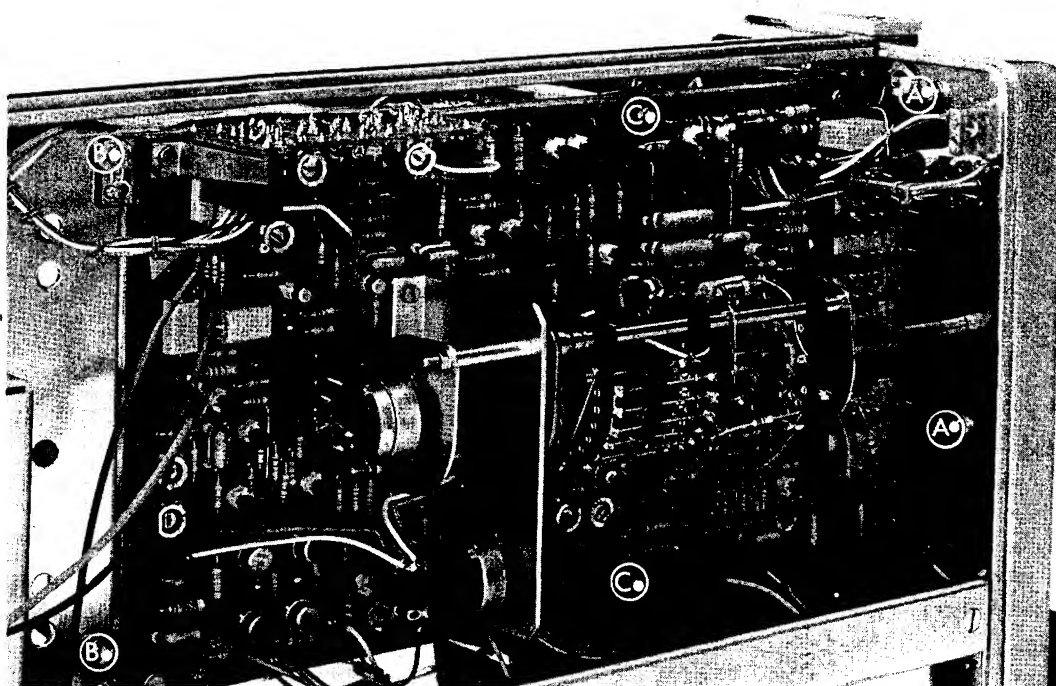

Fig. 3.21. Dismantling
- Remove two screws A (Fig. 3.21.).
- Remove two screws B (Fig. 3.21.).
- Remove two screws and nuts C (Fig. 3.21.).
- Remove two screws C (Fig. 3.21.).